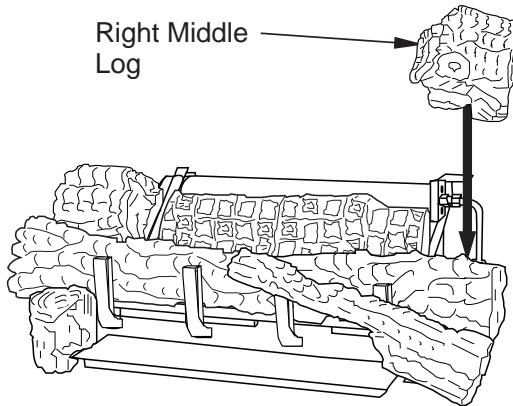

Figure 33 - Installing Right Middle Log
7. The right middle log (18" D-067, 24" & 30" D-041) has a groove on the bottom to sit on the chassis and has to sit on the tab on the back of the right front. The right middle log should have a recess area that fits around the ramp log as shown in **Figure 33**.